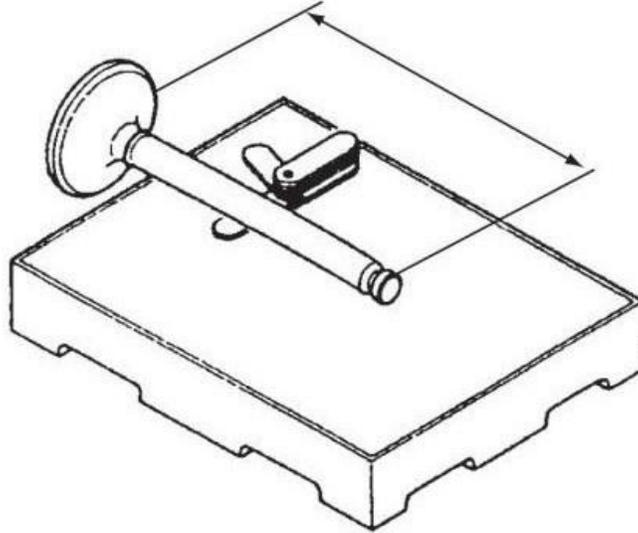

Figure 62. Valve Inspection Block
- Place the valve stem on a flat inspection block or layout bed. Roll the valve until a gap can be observed between a portion of the valve stem and the surface of the block or bed. Use a feeler gauge to measure the gap (Figure 62). See Intake / Exhaust Valve and Guide chart for the service limit.